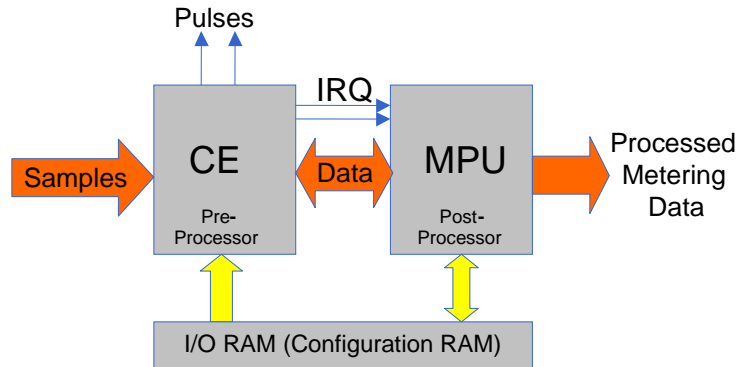

Figure 28: MPU/CE Data Flow
The data flow between the Compute Engine (CE) and the MPU is shown in Figure 28. In a typical application, the 32-bit CE sequentially processes the samples from the voltage inputs on pins IA, VA, IB, and VB, performing calculations to measure active power (Wh), reactive power (VARh), A^2h , and V^2h for four-quadrant metering. These measurements are then accessed by the MPU, processed further and output using the peripheral devices available to the MPU. Figure 28 illustrates the CE/MPU data flow.